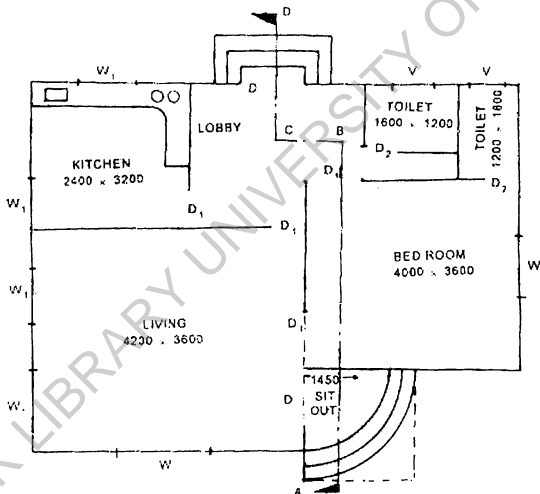

Figure 1
1. (A) The line diagram shows a residential building with dimension in mm shown in Fig. 1.